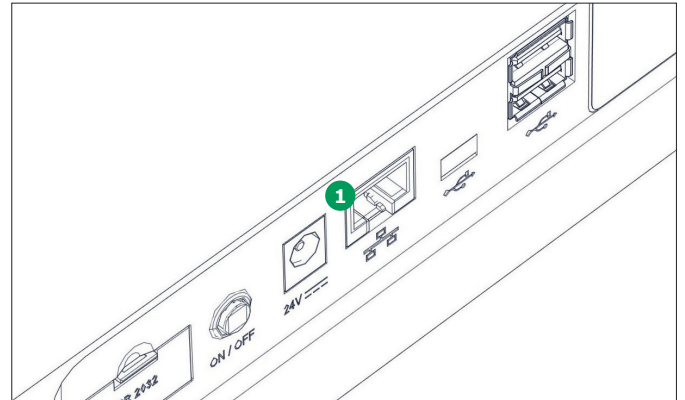

Figure 12 - Schematic drawing of back of the Spectroquant® Prove / Prove plus device with the LAN port
Use the Ethernet port ① (Figure 12) on the back side of the instrument to connect the Spectroquant® Prove / Prove plus to a local network (LAN).